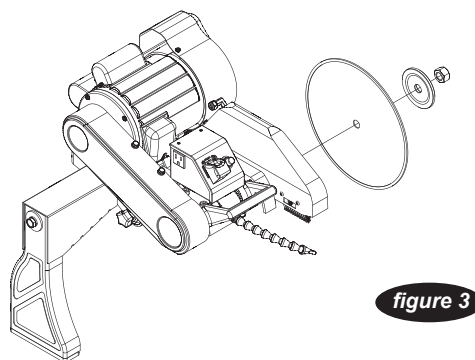

figure 3
2. Remove the blade shaft nut and outer flange. (see figure 3) If a blade has been mounted, hold the blade with one hand and use the other hand to loosen the nut with the universal wrench. Remove existing blade.